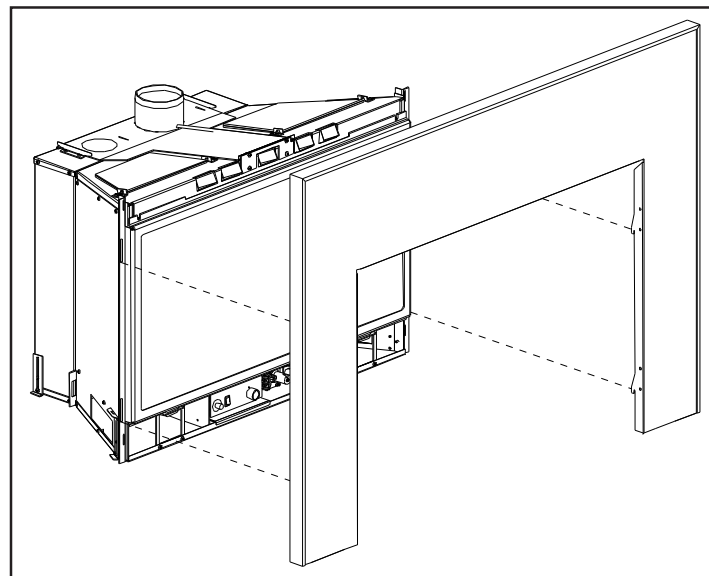

Figure 29: Filler panel with trim installation.
**INSTALLATION:** Lift the surround upright in front of the fireplace with the four (4) hooks pointing towards the fireplace. Slide the hooks into their corresponding slots (see Figure 29). Ensure the hooks are pushed all the way into the slots and the notch on the hook must be on the bottom of the slot. The surround should be wiped with a damp cloth periodically.